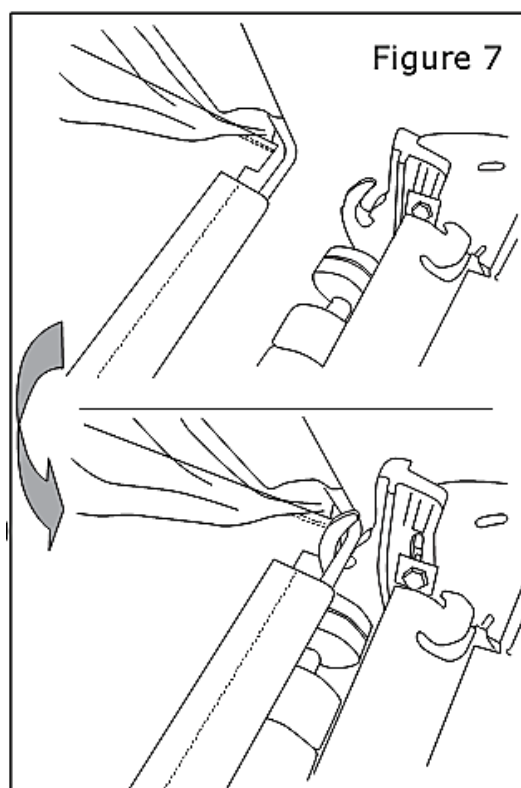

Figure 7
Step 1: Place the two Grass catcher side bars onto both sides of the Grass catcher Hooks as shown in Figure 7.